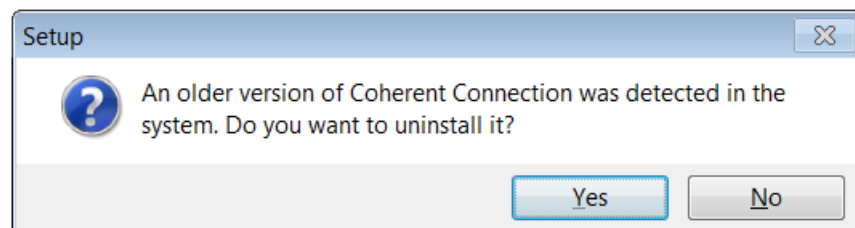

Figure 4-1. Uninstall Old Version of Software
4. If you had previously installed the Coherent Connection software, the message shown in Figure 4-1 is displayed. Click Yes to proceed.